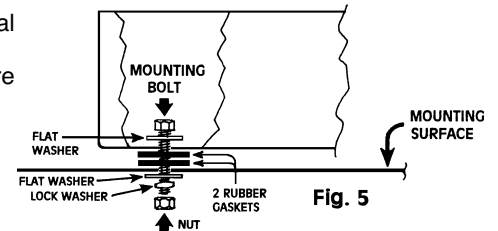

Fig. 5
9. Secure the base of the warning light to the vehicle using the hardware provided. To prevent vibration and water leaks, use only the hardware provided by Wolo in this kit and mount only as shown in (Fig. 5).